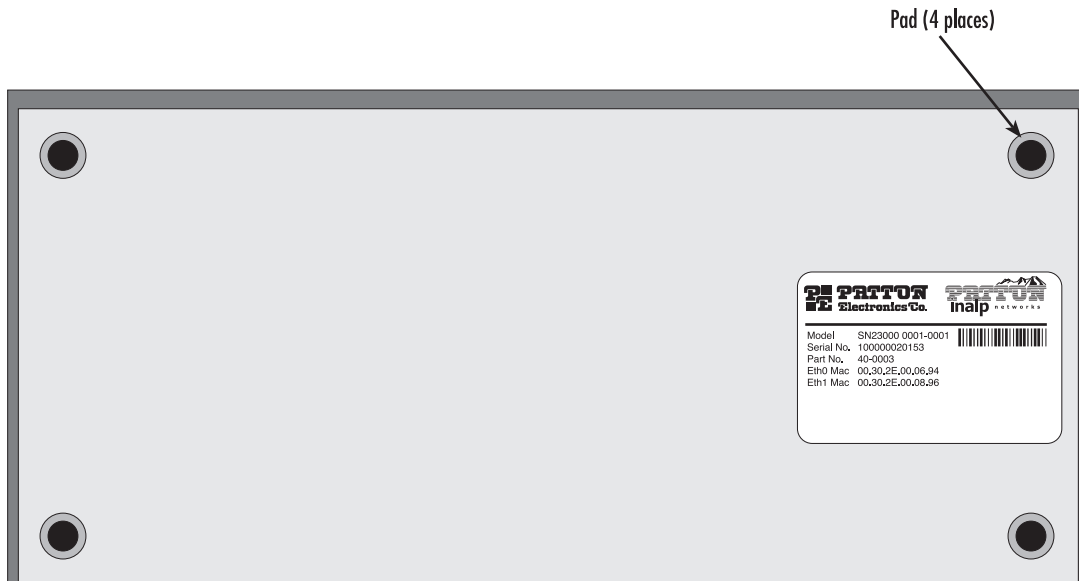

Figure 53. Pad locations
1. Remove one of the rubber pads from the adhesive strip (included in the SmartNode installation kit pack) and place it on a corner on the bottom of the SmartNode 2300 (see figure 53).